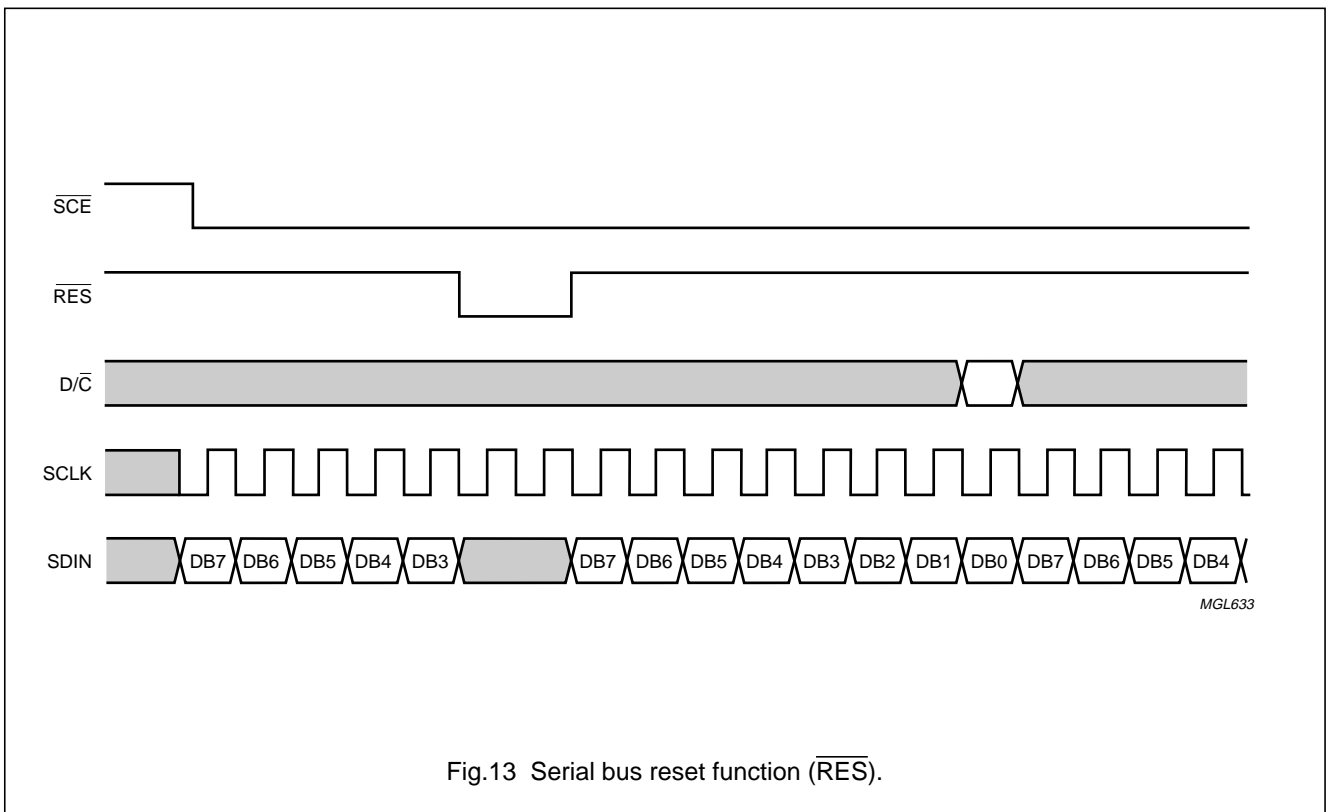

Fig.13 Serial bus reset function (\overline{RES}).
- A reset pulse with \overline{RES} interrupts the transmission. No data is written into the RAM. The registers are cleared. If \overline{SCE} is LOW after the positive edge of \overline{RES} , the serial interface is ready to receive bit 7 of a command/data byte (see Fig.13).